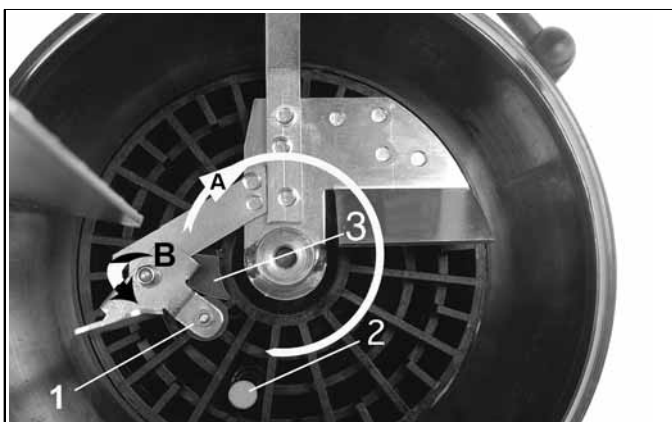

Fig. 8-2 Switching parts of the low-level control (reservoir empty)
- When passing the control cam 3 (fig. 8-2) the solenoid remains in the outer orbit C and thereby passes the solenoid switch 2. The solenoid activates the solenoid switch contact-free and so initiates a low-level indication.
- The guiding plate with the round solenoid 1 remains unentered (D).